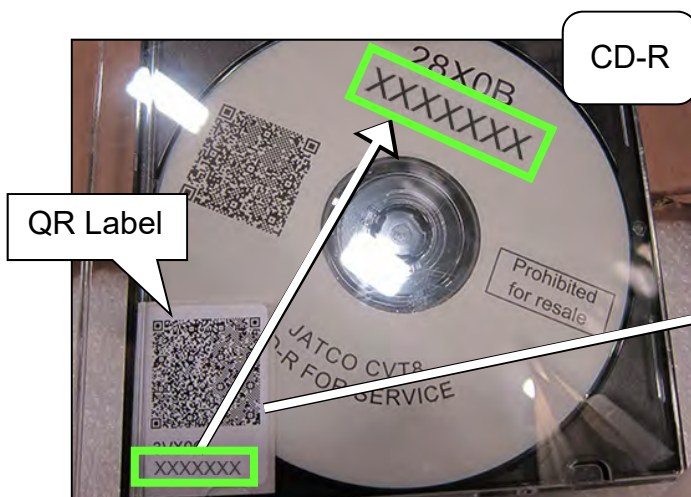
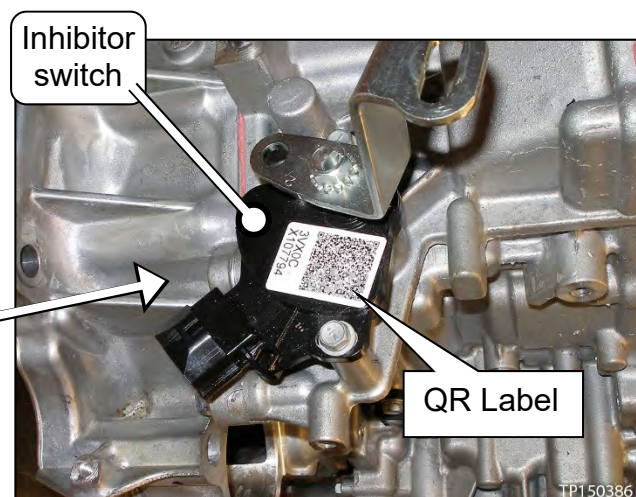

Figure 152
Figure 153
127. Attach the QR label (Figure 153) with the new calibration data onto the transmission range switch (inhibitor switch Figure 152).
- Confirm that the QR label and the CD-R part numbers are the same (Figure 153).